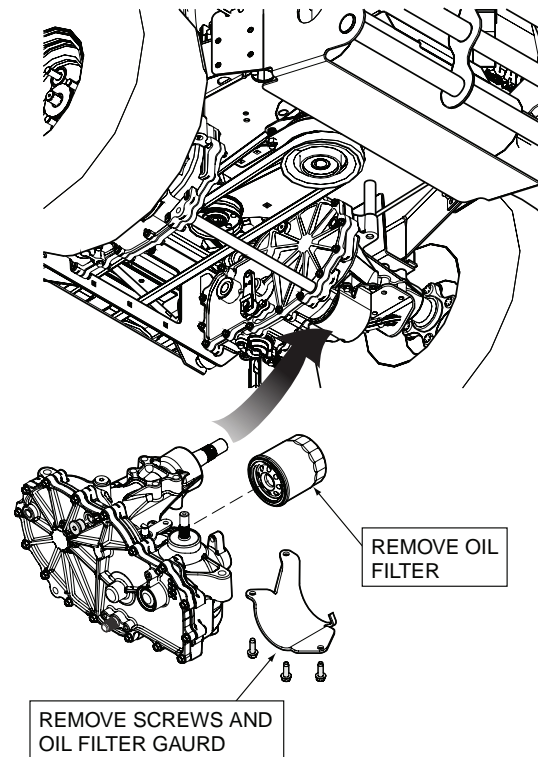

Figure 7-3. Hydraulic Oil Filter and Drain Plug
2. Remove the three 1/4" filter guard screws and filter guard from both axles. See Figure 7-3. Clean any loose debris around the perimeter of the filter.
4. Remove the hydraulic filters from both axles and allow the fluid to drain into the container. Properly discard the oil when the system has drained completely. See Figure 7-3.